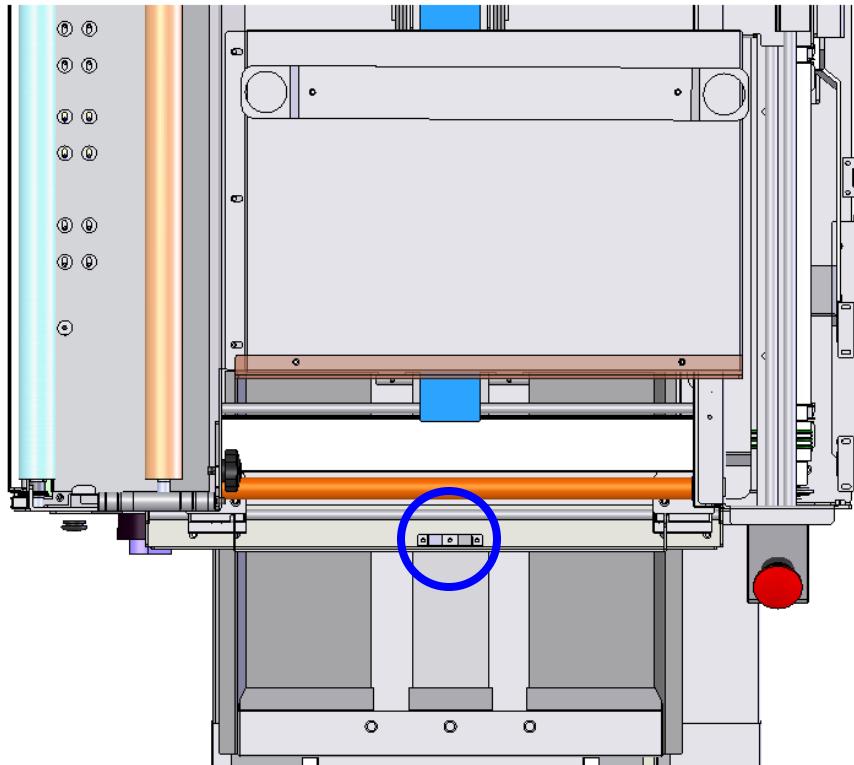

Figure 14.
19. Pull up the release lever as indicated by the blue circle and pull the entire Top assembly forward one inch to disengage. See Figures 14 and 15.